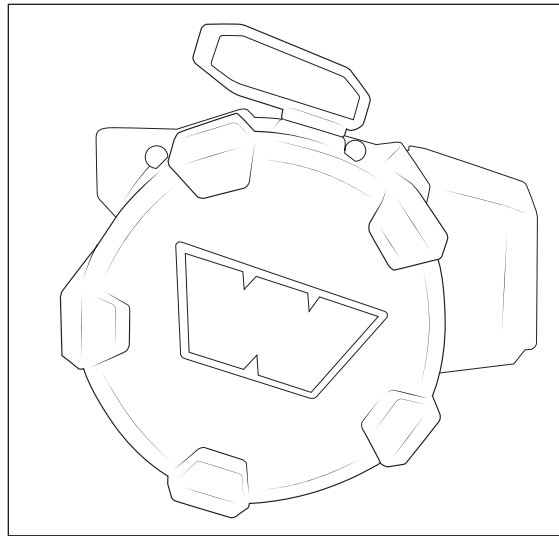

Figure 1
2. When reassembling, clock your clutch handle position to the shown orientation below in Fig 1.